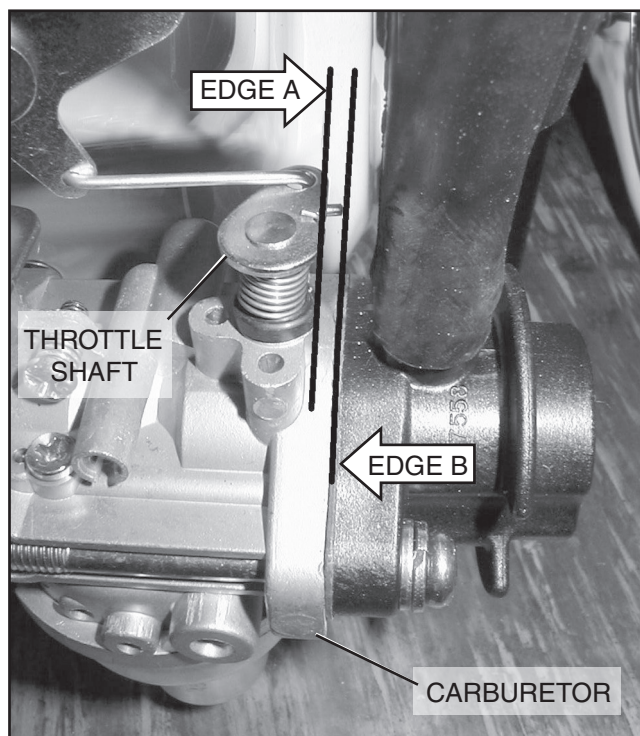

Figure 7-34. – Final Choke Adjustment
- b. The solenoid is in the correct position when Edge A of the carburetor throttle shaft is lined up parallel to Edge B of the carburetor body as shown in Figure 7-34.